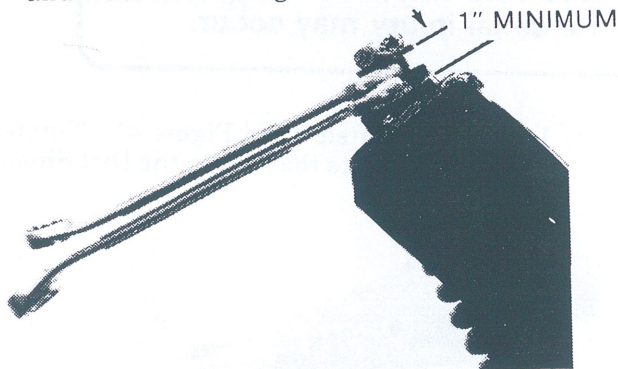

Figure 35
- (b) Slide two wrenches with a combined thickness of at least 1" under the spring rod bolt and washer. See Figure 35.